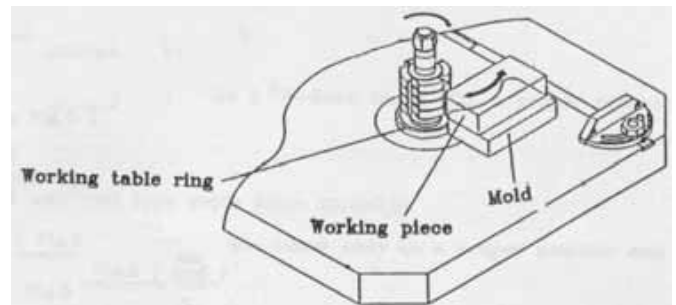

Fig. 2 The Usage of Working Table Ring
- B. If shaping irregular material, make the convex of working table ring shown as Fig. 2 toward upwards that is helpful to do shaping. When cutter is installed well, be sure to turn the manual brake button to the "ON position to let machine run.